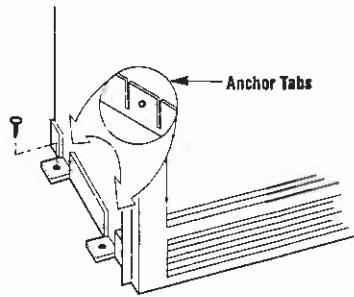

Figure 17
**Step 4.** The fireplace should be anchored to the floor. Bend down four (4) anchor tabs located at the base of the fireplace and secure to the floor by nailing with 8d nails (Figure 17).